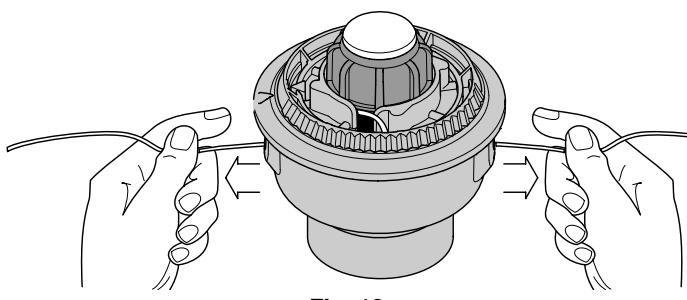

Fig. 13
4. Hold the inner reel in place and install the bump knob, spring and foam seal. Press down and turn the bump knob clockwise. Grasp the ends and pull firmly to release the line from the holding slots in the inner reel. (Fig. 13).
If the SpeedSpool® does not release line correctly, pull the ends of the line firmly from the spool (Fig. 13). If this does not release line, **follow the Cleaning the SpeedSpool® instructions.**